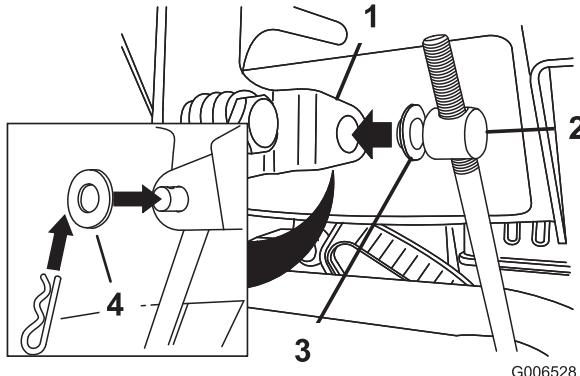

Figure 5
3. Place a flat washer on the trunnion (Figure 5).
6. Pull up on the speed control rod and insert the trunnion into the hole in the speed selector lever (Figure 5).
- B. Disconnect the trunnion from the speed selector lever (Figure 5).
- C. Turn the trunnion upward (counterclockwise) on the speed control rod (Figure 5).
- D. Connect the trunnion to the speed selector lever (Figure 5).